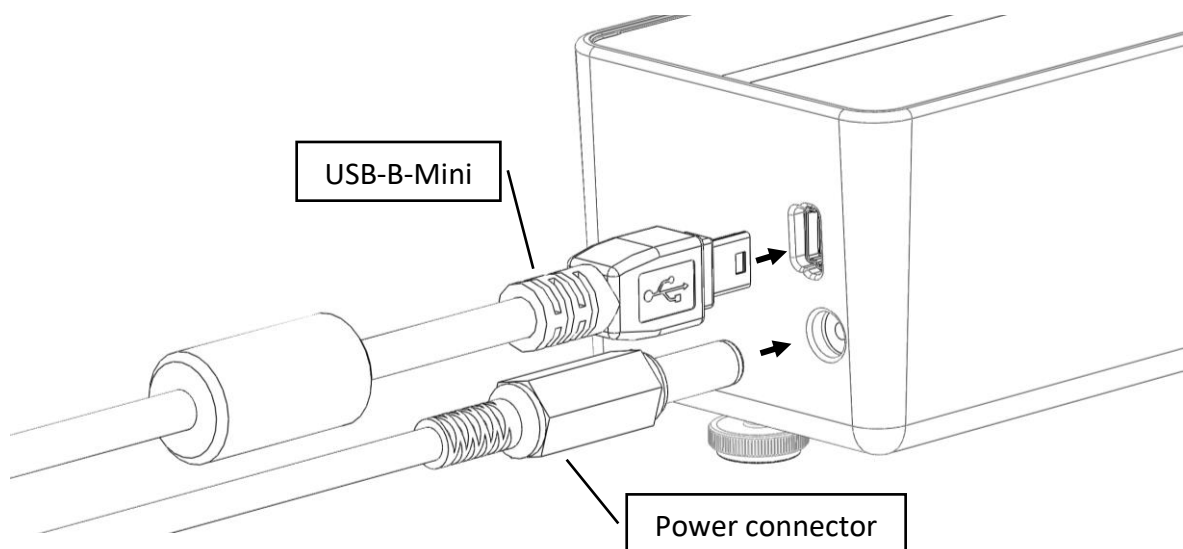

Figure 17. Connection of the LoniMover, USB optional if using Bluetooth
1. Connect power and optionally the long USB cables to the LoniMover according to Figure 17. Make sure the power cable is connected correctly before connecting the power adapter to the mains outlet.